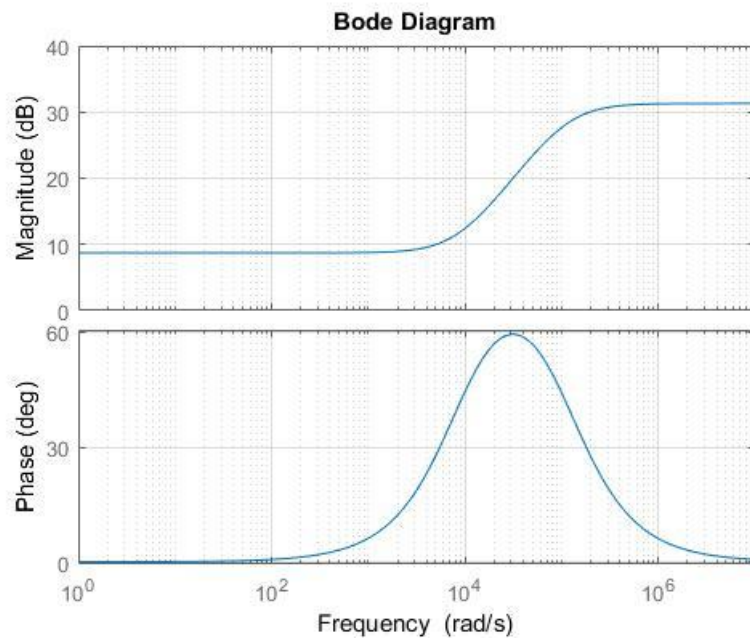
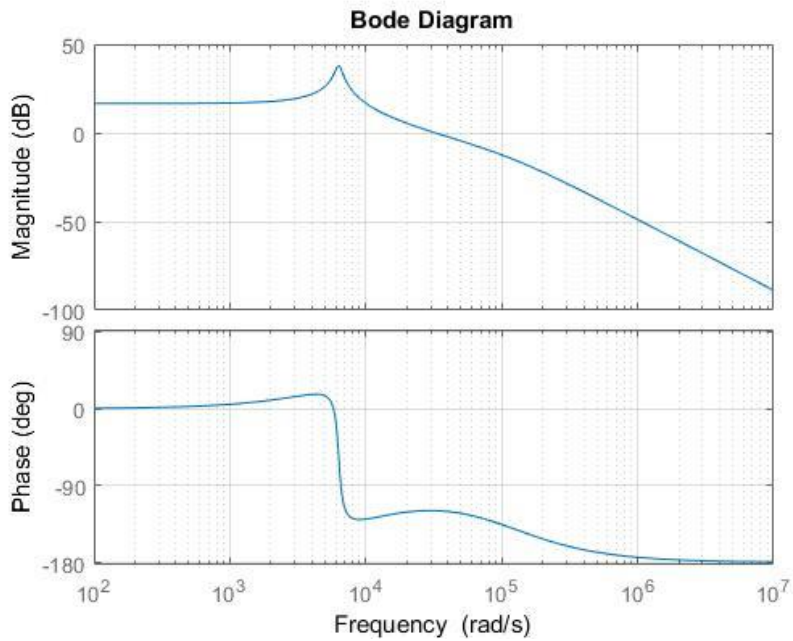

Figure 17. Bode Plot of Lead Compensator
Figure 18. Loop Gain  $T(s)$  with Lead Compensator
The transfer function of the lead converter is calculated from equation (13), a bode plot of the lead compensator is shown in figure 17, and the bode plot of the loop gain after including the lead compensator is shown in figure 18.